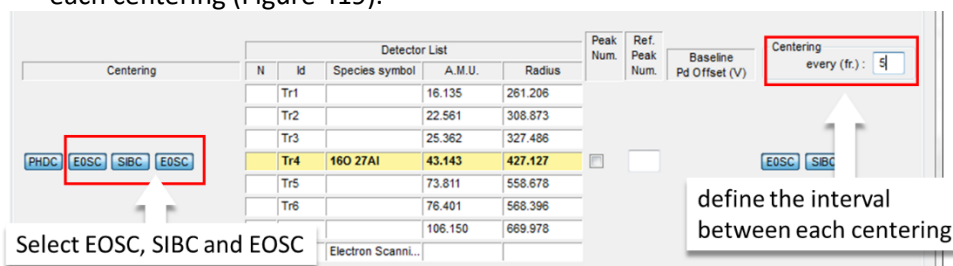

Figure 419: add EOS and SIB centering to an analysis
- a. **EOS/Secondary Ion Beam centering:** under “centering”, select EOSC, SIBC and EOSC (it is always better to re-do an EOS scan at the end) and define the number of frames between each centering (Figure 419).
- b. **Peak centering:** Select the masses for which you wish to do a peak centering and their reference peak, if necessary (Figure 419).